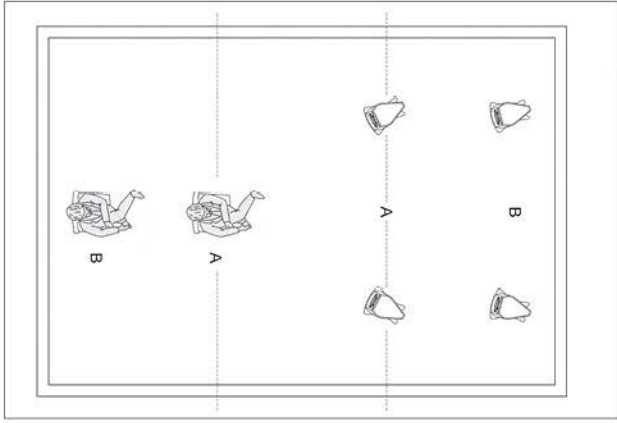

FIG.12
4. there are no fixed or universally valid rules regarding speaker setup which are valid for every environment. However, a good approach to the problem begins by dividing the room into three equal parts, as shown in fig. 12. At this point, the speakers should be positioned on the first line you have identified and well away from the lateral walls. The listening position should be on the second line, as shown in fig. 12 position 'A'. This ensures adequate space around both the listener(s) and the speakers to help reduce the amount of acoustic reflection generated from the wall surfaces and corners. Fig. 12 also shows us how the speakers should be angled to converge towards the listening point, thus creating 'isosceles triangle' configuration. This as a final adjustment, consisting of angling the speakers literally towards the ears of the listener, allows for a marked improvement in the focus of the stereophonic image.